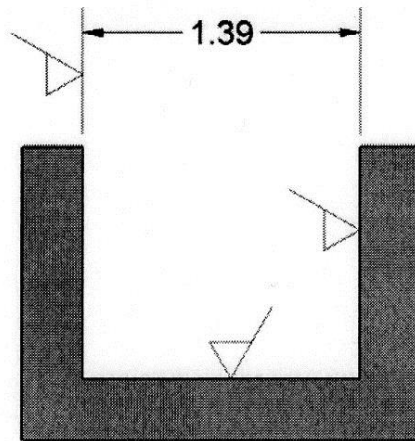

Figure 4. Orientation of Finish Marks to Machined Surfaces.
5. The finish mark symbol should be positioned to read from the bottom of the sheet or from the right side of the sheet, as shown in Figure 4.